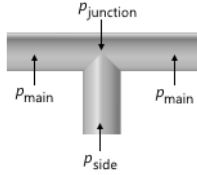

Figure 2-1: A T-junction with local pressure indications.
The **T-junction** is intended for a point that is connected to exactly two collinear main branches and one perpendicular side branch. If this condition is not met, a warning message will be issued when solving. The flow can go in either direction through each of the main branches and the side branch. See Figure 2-1.
- The **Loss coefficients** option allows you to enter a value or expression for the **Loss coefficient main branch** K_{main} for the energy loss between main branch and junction (the default is 0.1) and the **Loss coefficient side branch** K_{side} for the energy loss between the side branch and junction (the default is 1.2). Both are dimensionless numbers. See Figure 2-1.